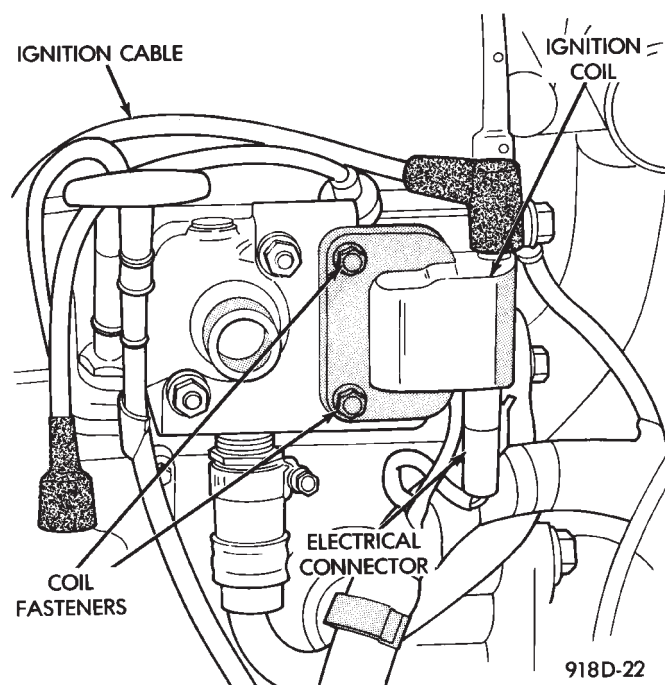

Fig. 4 Ignition Coil—2.2L TBI, 2.5L TBI and Turbo I Engines
The ignition coil mounts to the thermostat housing (Fig. 4).
- (1) Disconnect the coil to distributor ignition cable (Fig. 4).
- (2) Disconnect the wiring harness connector from the coil.
- (3) Remove ignition coil mounting screws.